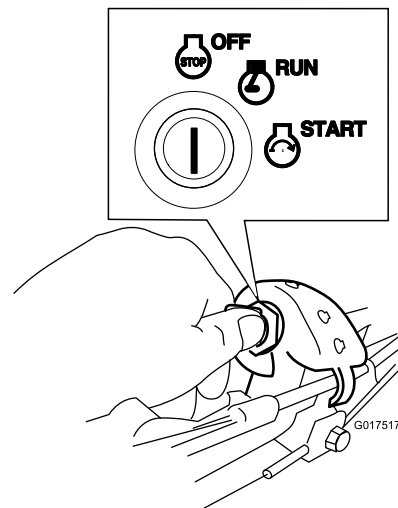

Figure 21
1. Turn the ignition key to the OFF position (Figure 21).